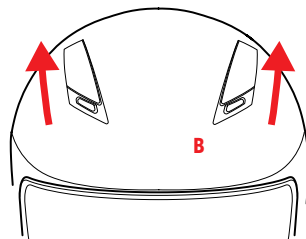

FIGURE 6
- Figure 6: air intake fully open.